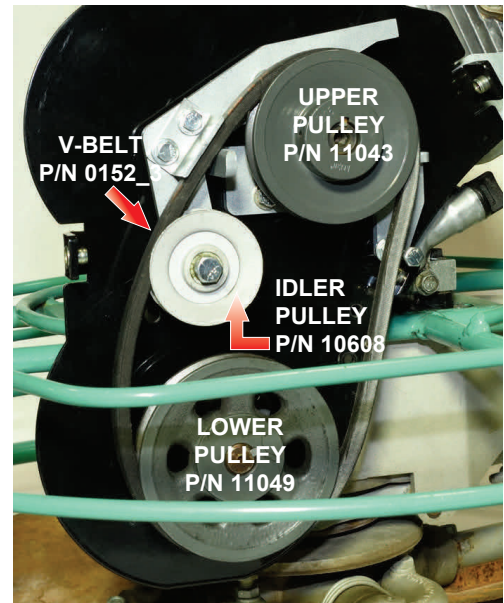

Figure 28. V-Belt Installation
4. Install the V-belt (P/N 0152 3) by pulling it over the upper pulley (P/N 11043) and the idler pulley (P/N 10608), then rolling the belt onto the lower pulley (P/N 11049). See Figure 28.